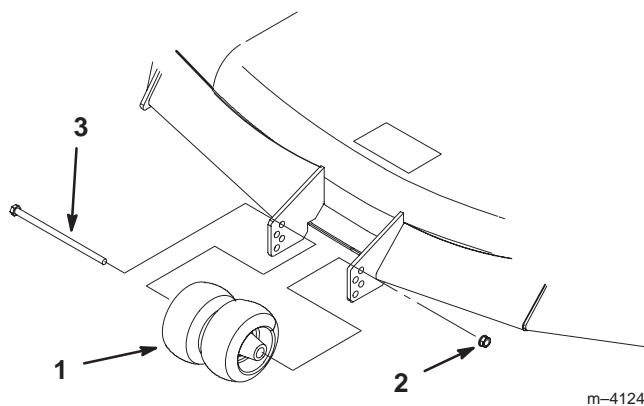

Figure 26
2. After adjusting height-of-cut, remove bolt and nut (Fig. 26).
3. Select hole so gage wheel is positioned to the nearest corresponding height-of-cut desired (Fig. 26).
4. Reinstall the bolt, center rollers and nut (Fig. 26).